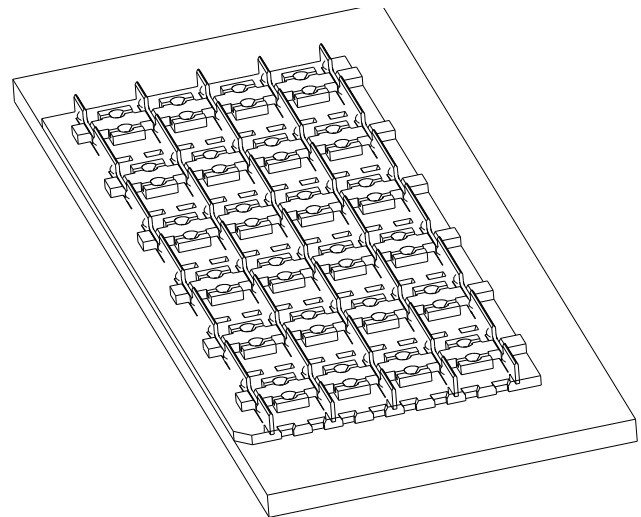

Figure 6
1. If there are contacts still remaining in the board, a secondary tool may be necessary to remove any remaining contacts. Refer to Figure 6.